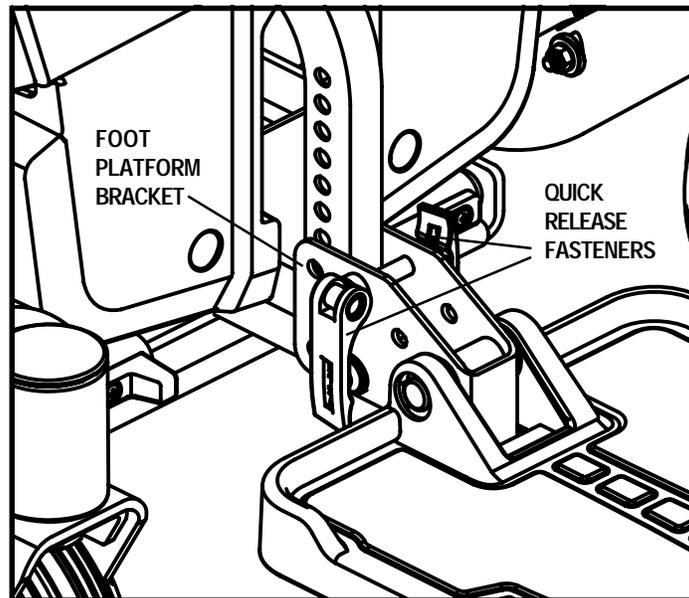
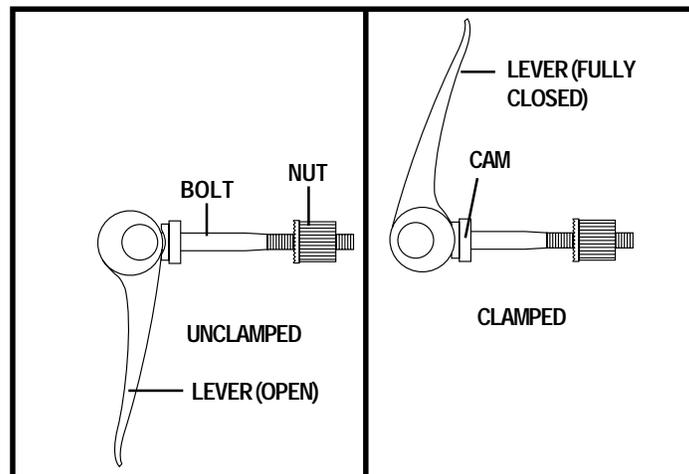

Figure 20. Foot Platform Adjustment
Figure 21. Quick Release Fastener Operation
1. Remove the quick release fasteners from the foot platform bracket. See figure 20.
**Quick Release Fasteners:** The foot platform is attached to the power base with two quick release fasteners. See figure 20. Each quick release fastener consists of a bolt, a lever, and a nut. See figure 21. The lever has a cam on the end that allows it to clamp into place. The quick release fastener has two states: clamped and unclamped. When the lever is open, the quick release fastener is unclamped. When the lever is closed, the quick release fastener is clamped